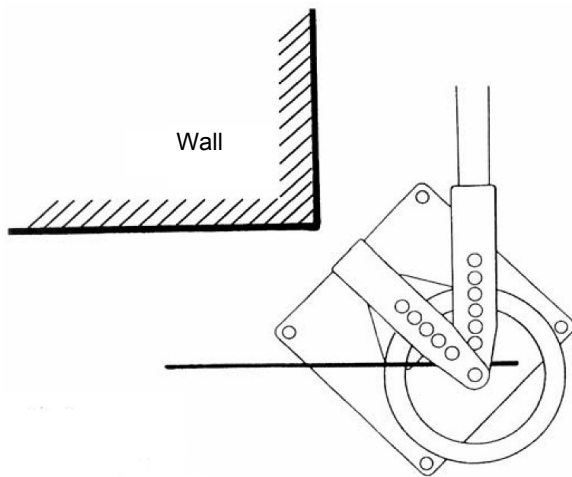

Fig. 3: Set up example
- Make sure you have enough space around the machine (see Fig. 3).